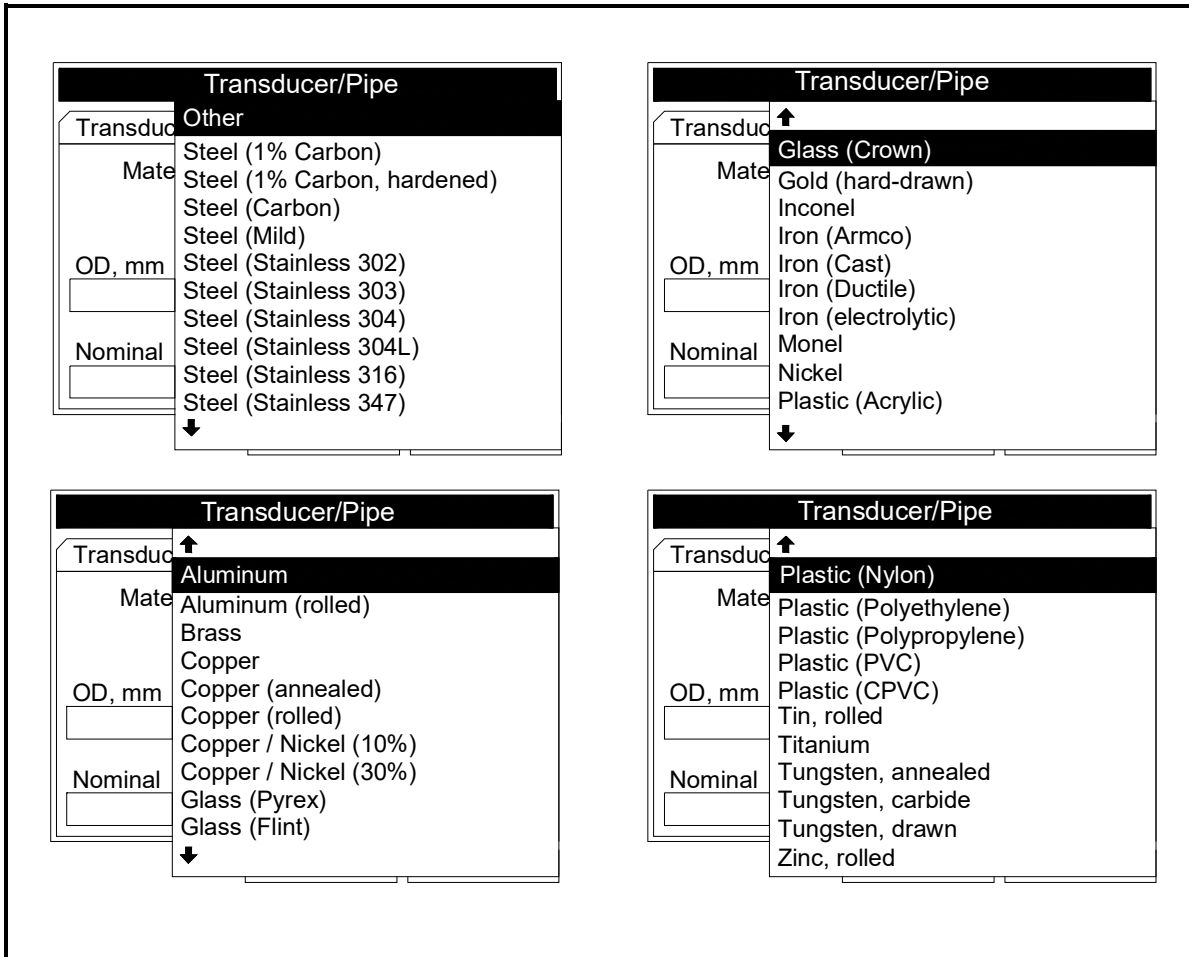

Figure 35: Pipe Material Options
- b. A drop-down list of materials opens as shown in Figure 35 below. Press the [▼] or [▲] keys to scroll to the appropriate material, or scroll to “Other” for a material not on the list. Press the [▶] key to scroll down by a page, or the [◀] key to scroll up by a page.